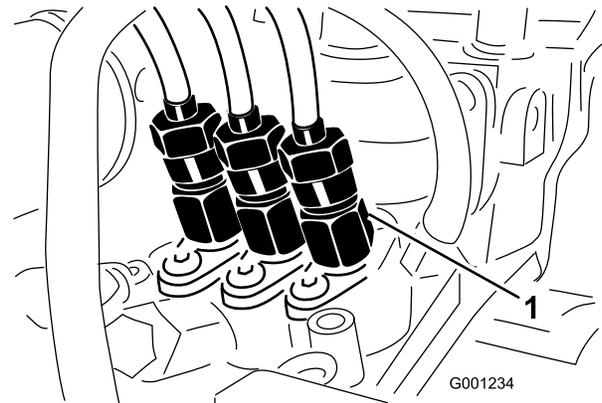

Figure 51
1. Loosen the pipe connection to the No. 1 injector nozzle and holder assembly at the injection pump (Figure 51).